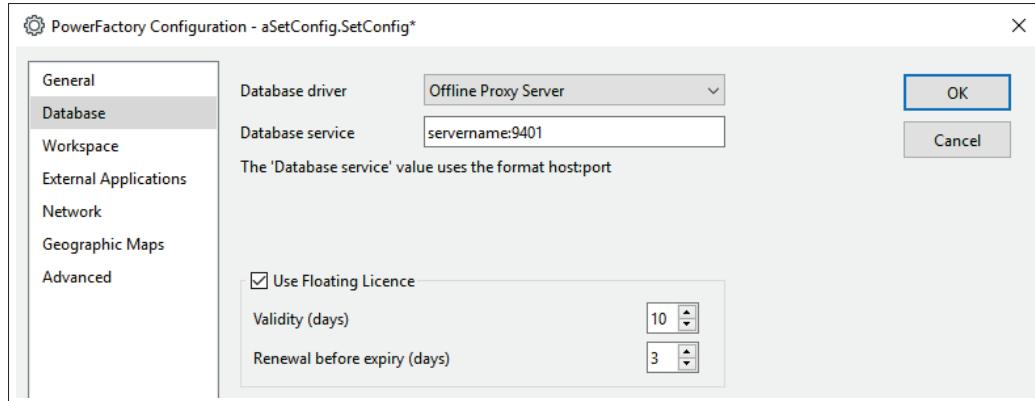

Figure 5.5.1: Log-on dialog, *Database* page
- On the *Database* page, enter the *Offline Proxy Server* settings (see Figure 5.5.1)